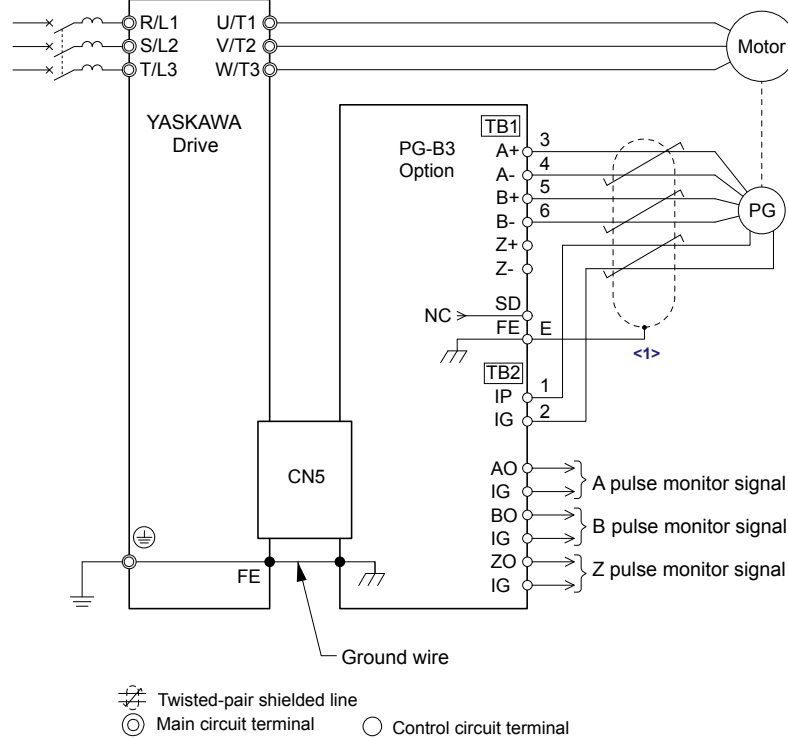
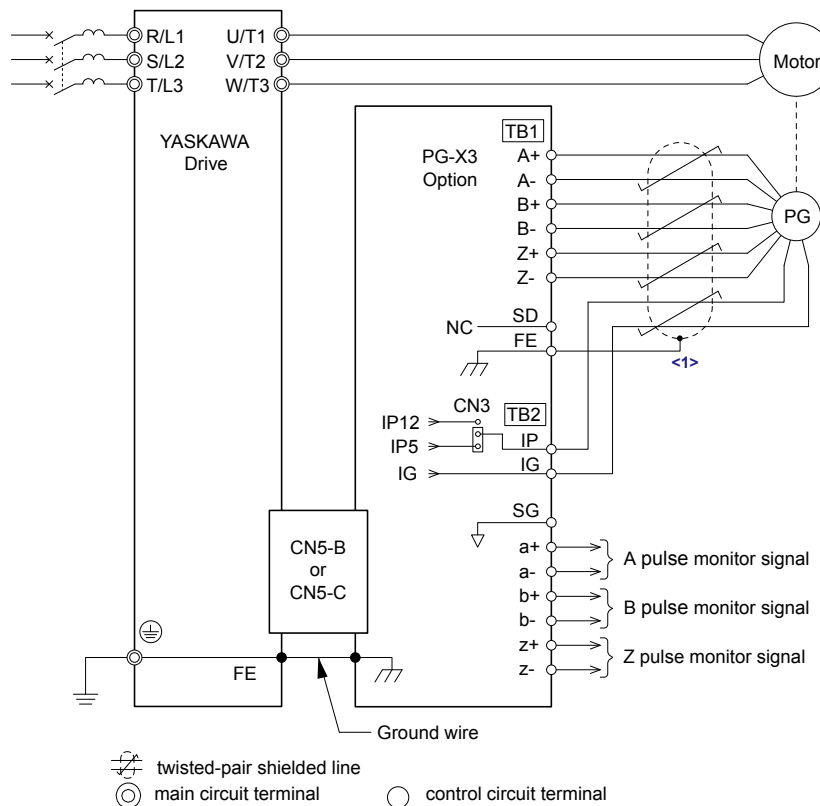

Figure 8.8 PG-B3 Option and Encoder Connection Diagram
Figure 8.12 PG-X3 Option and Encoder Connection Diagram
5. Wire the motor PG encoder to the terminal block on the option. Refer to Figure 8.8 and Figure 8.12 for wiring instructions.